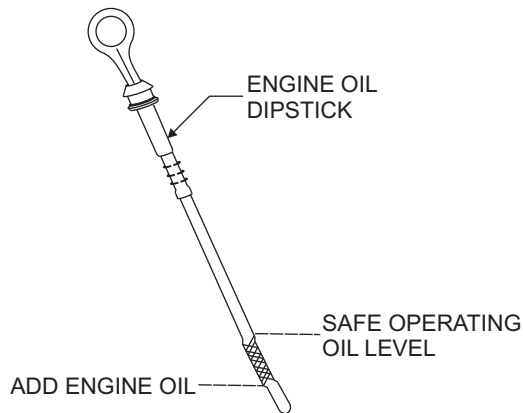

Figure 7. Engine Oil Dipstick
3. Verify that oil level (Figure 7) is maintained between the two notches on the dipstick.